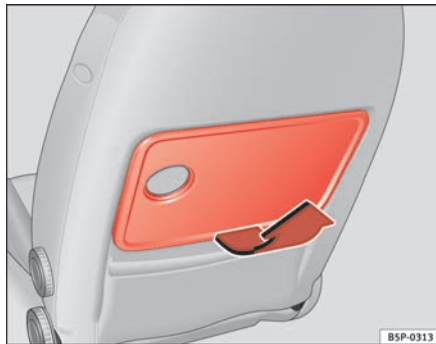

Fig. 97 Folding table of front left seat
- To open the table, open it up in the direction of the arrow ⇒ **fig. 97**.